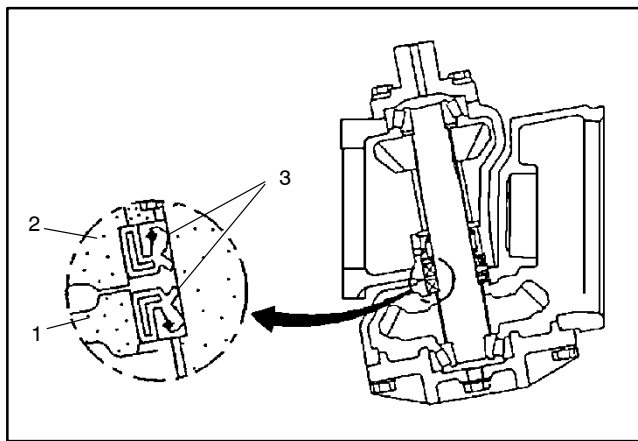

Figure 8
1. Coat new shaft seals with grease and install in axle case and bevel gear case as shown (Fig. 8).